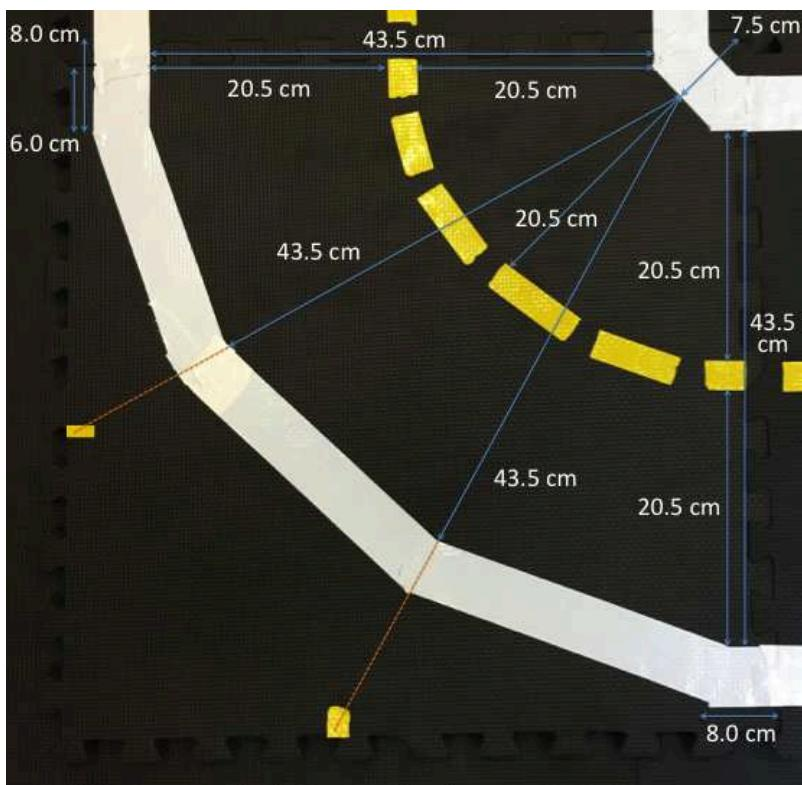

Figure 2.2. The specification for a curved road tile
- For curved roads, the white lane marker is formed by five pieces of white tape, while the inner corner is formed by three pieces, placed according to the specifications in the image below, where the edge pieces are matched to adjacent straight or curved tiles (Figure 2.2).